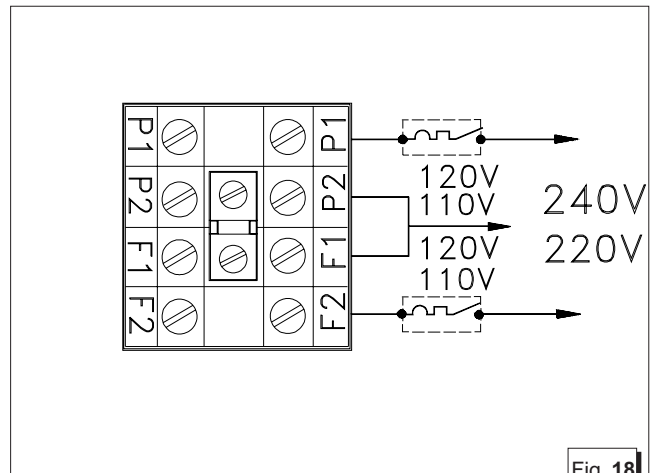

Fig. 18
In serial connection, power can be picked up both at 110 (120) V between points $F_1 - F_2$ and $P_1 - P_2$ and at 220 (240) V between points P_1 and F_2 at the same time, as shown in the diagram in fig. 18.
N.B: In these cases two magnetothermic devices should be installed, see fig. 18/19, dimensioned on the current values (A) shown in Table. 2.